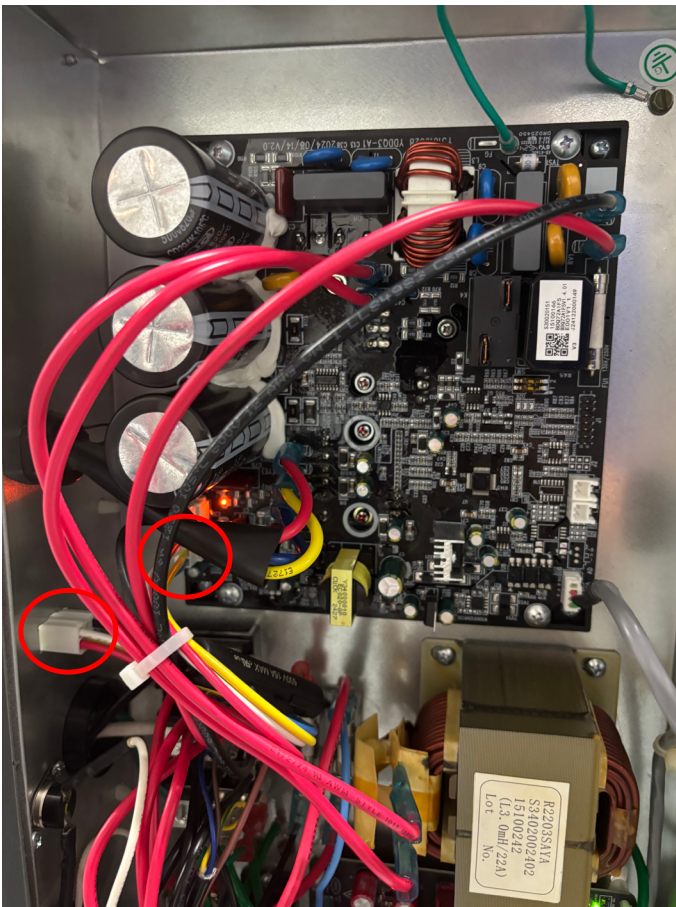

Figure 435 (Outdoor Fan)
3. Unplug molex harness from cabinet junction (white 6 pin plug) .See Figure 435.